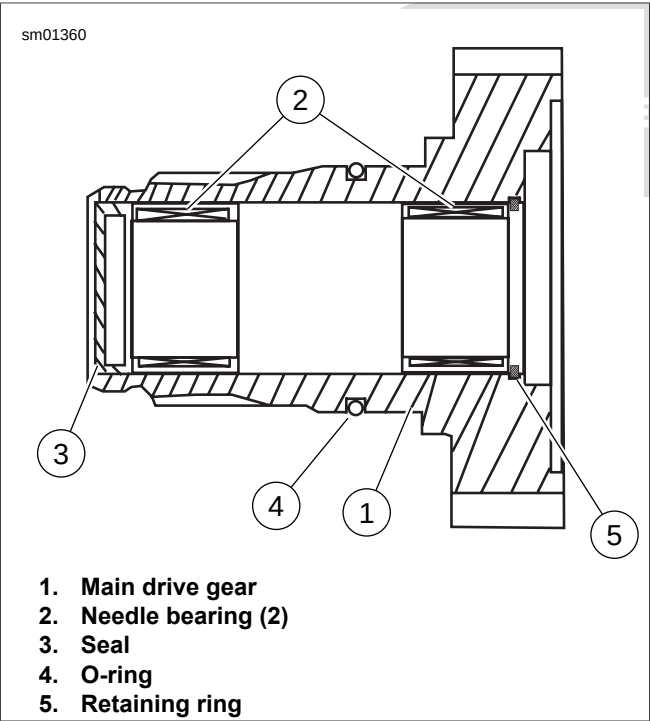

Figure 5-65. Main Drive Gear Assembly (typical)
2. See Figure 5-65. From inside right crankcase, tap out seal (3) at end of main drive gear (1). Discard seal.
2. See Figure 5-65. Drive out needle bearings (2) from inside bore of main drive gear (1). Discard needle bearings. Do not reuse bearings after removal from drive gear bore.
3. Remove and discard O-ring (4).